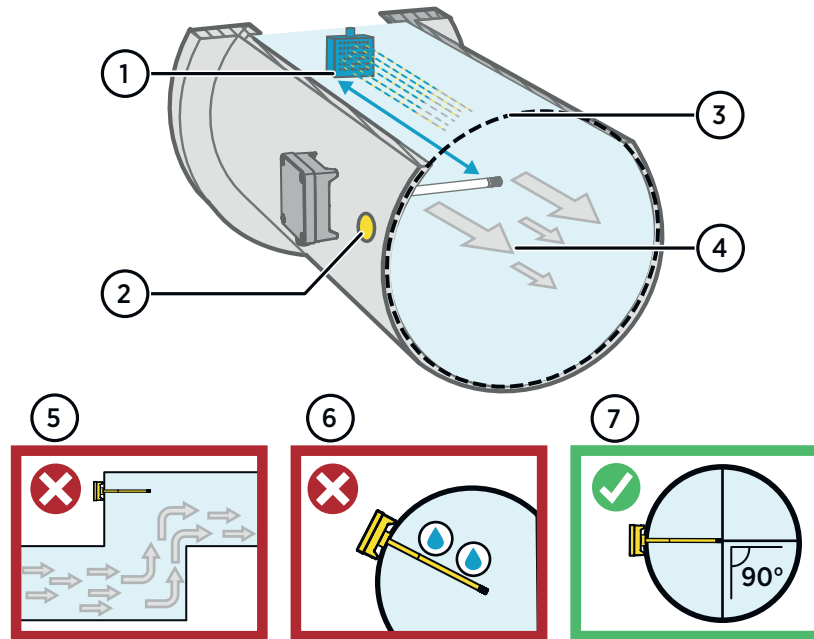

Figure 9 Duct Installation Overview
1. Insert the reference transmitter into the measurement environment next to the transmitter that you are adjusting. The reference transmitter should be inserted approximately 30 cm (12 in) from the HMD60 probe's installation hole, towards the direction of the air flow. See Figure 9 \(page 14\).